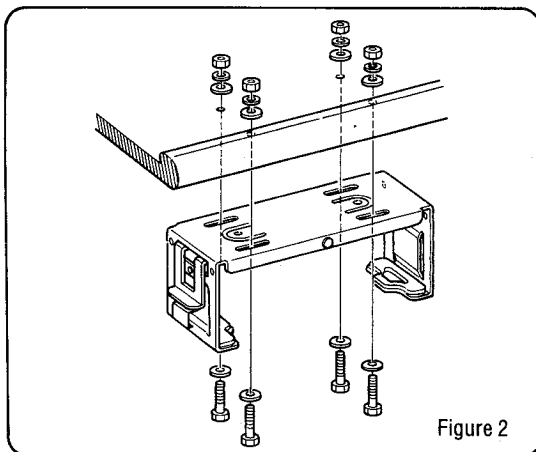

Figure 2
① When you use hexagon bolt of M5mm, make a hole with diameter of 5.2 to 5.5 mm. Make a hole with diameter of 4.0 to 4.3 mm for tapping screw of M5mm.
② Install the set fix bracket in a car as shown in Figure 2.